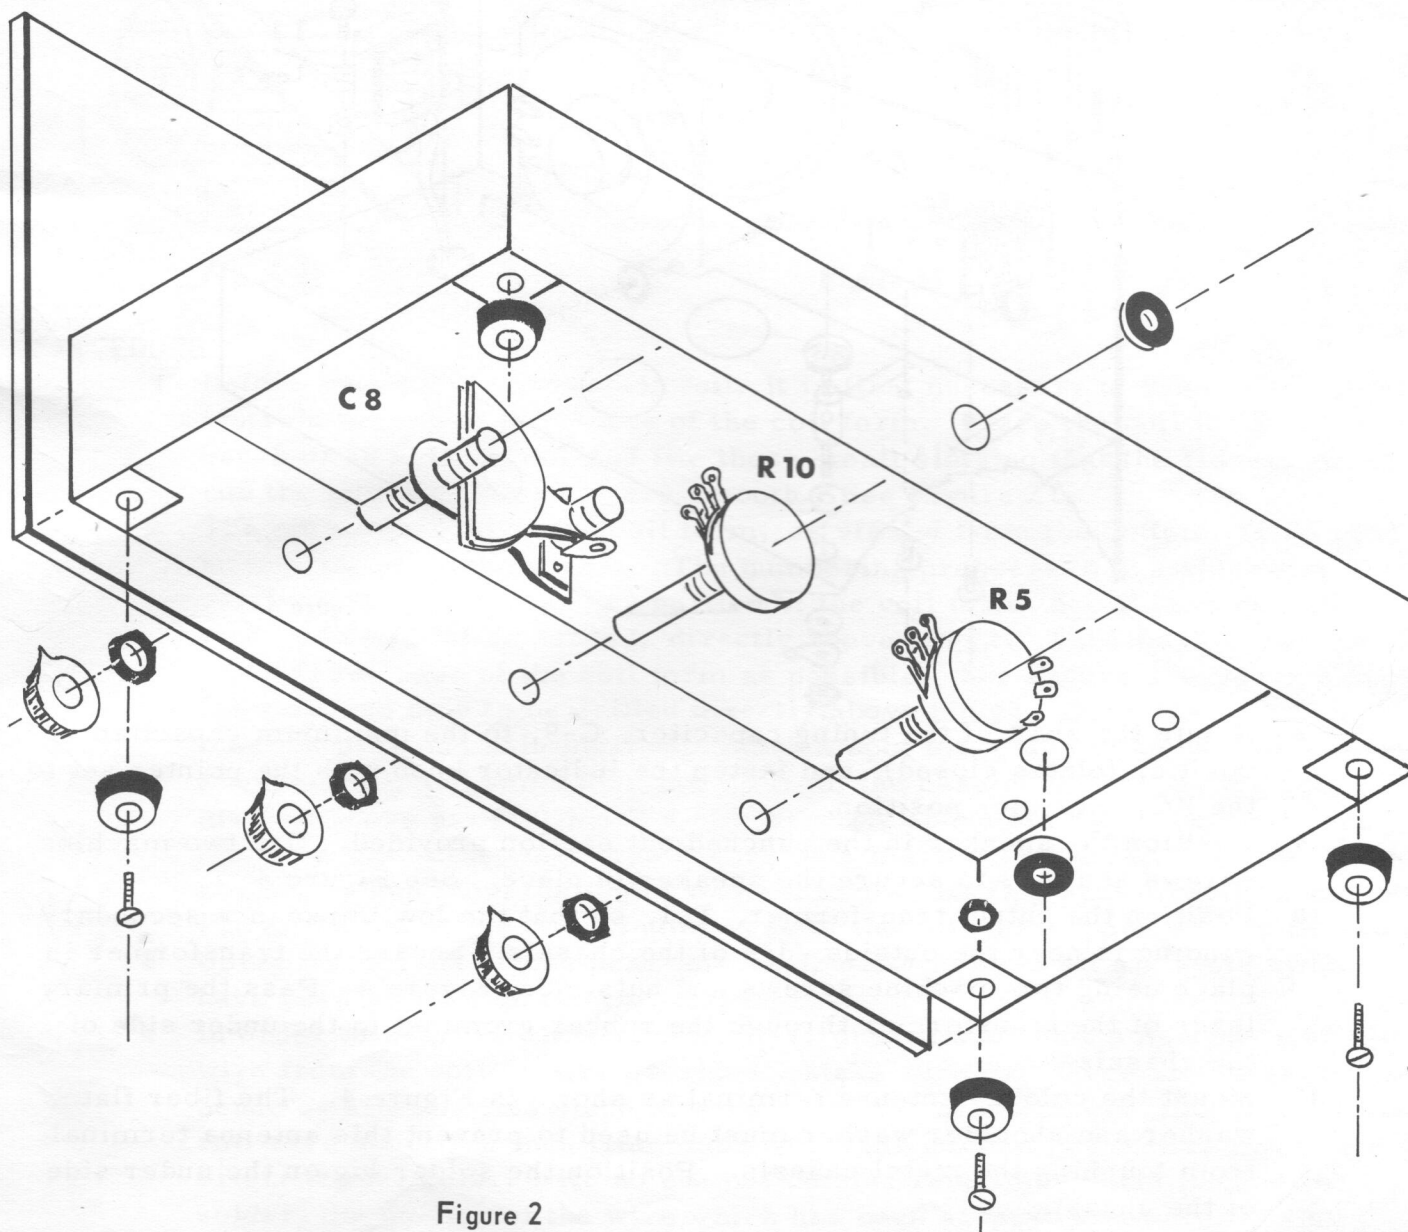

Figure 2
- 2 Attach the front panel to the metal chassis as shown in Figure 2. Make sure that the potentiometer with switch, R-5, and the potentiometer, R-10, are mounted correctly as shown. When mounting the trimmer capacitor, C-8, care must be taken to prevent damage to this component.
- 4 The bottom plate will be held in place by the four (4) rubber feet and sheet metal screws. After the project is completed, attach these in place.
- 5 Place the two rubber grommets through the holes provided in the metal chassis. See Figure 2.